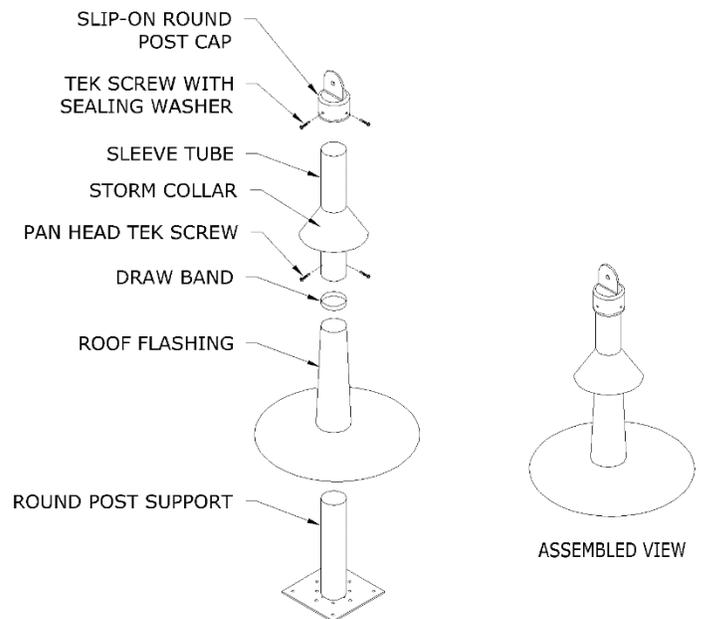

FIGURE 6
**Adjustable Height Post:** If your project has variable and/or multiple roof slopes, adjustable height posts are used. Adjustable post configurations include a Sleeve Tube that telescopes on the Round Post Support to allow height adjustment (see Figure 6).